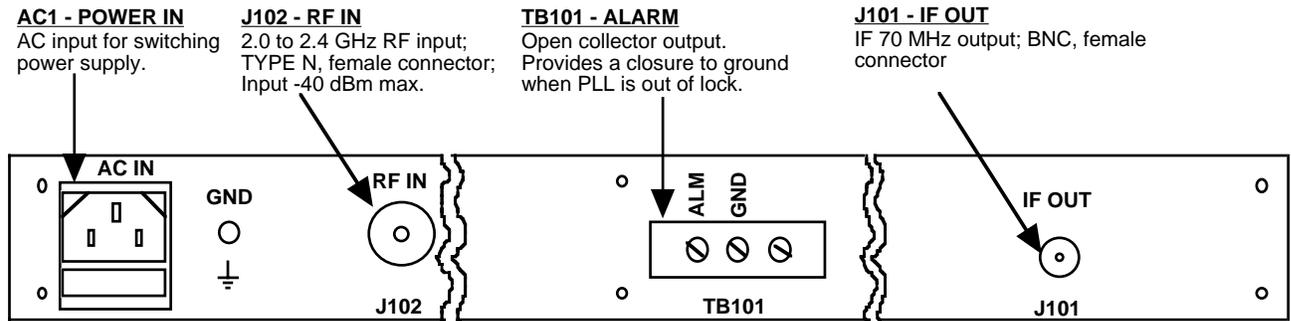

FIGURE 2.2 2089-24 Rear Panel I/Os and Level Control
2.2 Rear Panel Input/Output Signals - Figure 2.2 shows the input and output connectors located on the rear panel.
- 1.) Connect a -40 dBm to -70 dBm signal to RF In, J102 (Figure 2.2).
- 3.) Connect the IF OUT, J101, to the external equipment (Figure 2.2).
- 5.) Connect 90 - 260 VAC, 47 - 63 Hz to AC1 on the back panel (Figure 2.2).